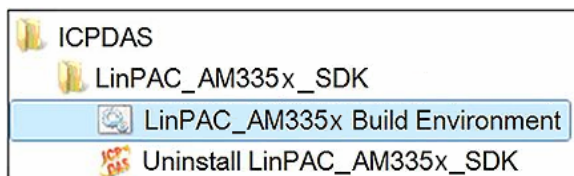

Fig. 2-22
- ❑ Double-click the shortcut icon for the “LinPAC_AM335x Build Environment” (Refer to Fig. 2-22).